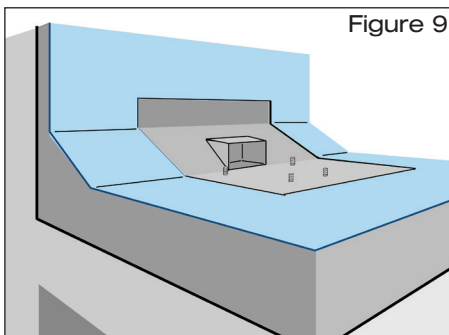

Figure 9
2.3 Unroll the first layer of the roof sealing sheet over the scupper drain, and make a cut-out in the region of the bonding flange (Fig. 9).